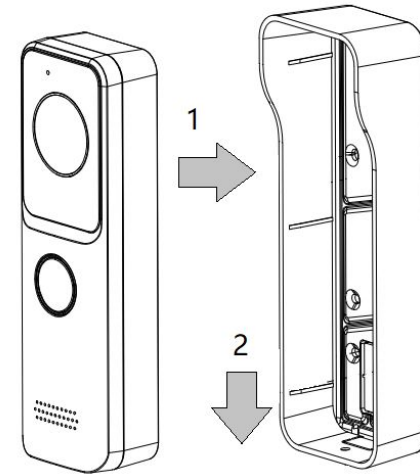

Figure 2-3
Step 2 Connect all necessary wiring to the doorbell, then install the Doorbell into the mount by pushing it into the upper recess of the mount. Once inside the recess, push down so that the rear of the Doorbell catches on the mount interface. See Figure 2-3.